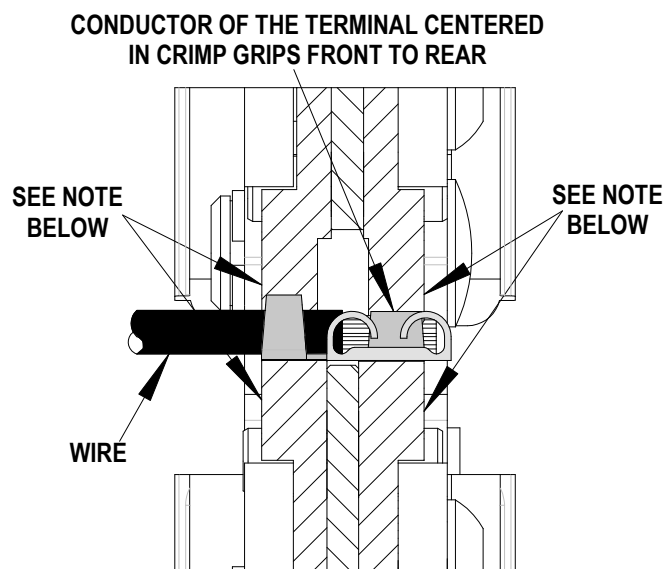

Figure 3
3. Place the terminal into the nest profile, centered on the nest as shown, with the outer edges of the crimp grips flush with each side of the crimp die and the opening in the terminal centered below the forward leg of the right punch. See Figure 3.
5. From the left side of the tool, insert the pre-stripped wire into the terminal until the conductor is centered, front to rear, in the crimp grips. See Figure 3.